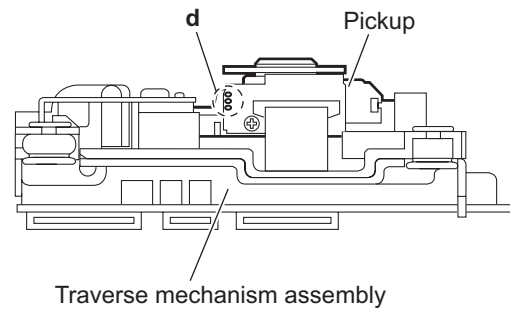

Fig.4
### 3.2.4 Removing the DVD module board (See Figs.4 and 5)
- (1) From the side of the traverse mechanism assembly, solder the short land sections **d** on the pickup. (See Fig.4.)
- Solder the short land sections **d** on the pickup before disconnecting the card wire from the connector **CN101** on the DVD module board. If the card wire is disconnected without attaching solder, the pickup may be destroyed by static electricity. (See Figs.4 and 5.)
- When attaching the DVD module board, be sure to remove solders from the short land sections **d** after connecting the card wire to the connector **CN101** on the DVD module board. (See Figs.4 and 5.)
### 3.2.5 Removing the pickup (See Figs.4,6 to 8)
- From the side of the traverse mechanism assembly, solder the short land sections **d** on the pickup. (See Fig.4.)
- Solder the short land sections **d** on the pickup before disconnecting the card wire from the connector on the pickup. If the card wire is disconnected without attaching solder, the pickup may be destroyed by static electricity. (See Figs.4 and 6.)
- When attaching the pickup, be sure to remove solders from the short land sections **d** after connecting the card wire to the connector on the pickup. (See Figs.4 and 6.)
### 3.2.6 Attaching the pickup (See Figs.4,6 to 9)